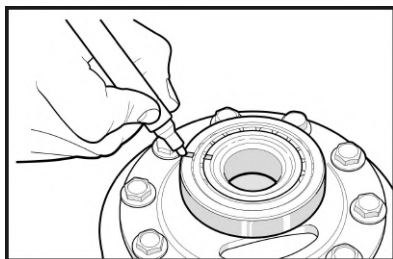
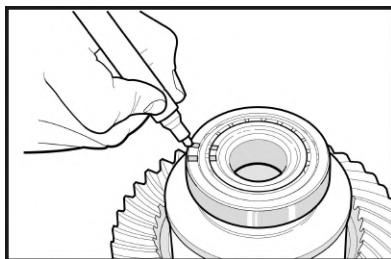

Fig. 8
Fig. 9
1.12 If the bearings are in good condition and will be reused, mark the bearing cups and cones. Apply one mark to the bearings on one side of the differential and two marks to the bearings on the opposite side, as shown in the figures. (Fig. 8, Fig.9)